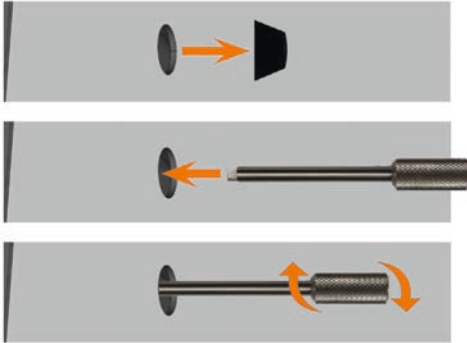

Fig. 26: Using the key for the emergency release
- M2. Remove the protective cap from the emergency release opening (↷ Fig. 26, top).
- M3. Insert the key for the emergency release of the front cover through the opening (↷ Fig. 26, middle).
- M4. Deactivate the safety interlock of the front cover by turning the key counter-clockwise by 90° (↷ Fig. 26, bottom).
- M7. Reactivate the safety interlock of the front cover by turning the key for the emergency release clockwise by 90° (↷ Fig. 26, bottom).